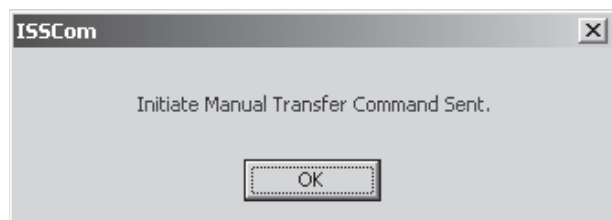

Figure 2-5 Initiate Manual Transfer Command Sent Confirmation Screen
6. Select **YES**, ISScom will display the Initiate Manual Transfer Command Sent confirmation screen (Figure 2-5).